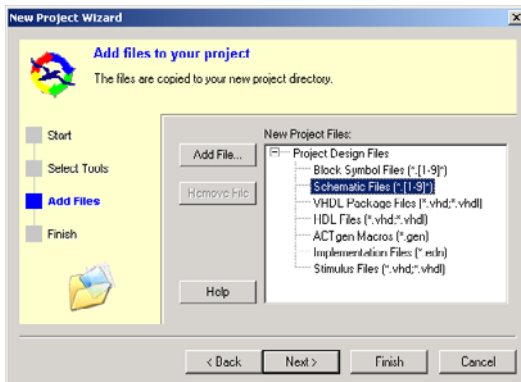

Figure 2-4. Add Files in the New Project Wizard (Libero IDE)
9. **Add Files** in the New Project Wizard to add existing Project Design Files, including any ACTgen macros or Block Symbol, Schematic, VHDL Package, HDL, Implementation, and Stimulus files (Figure 2-4).